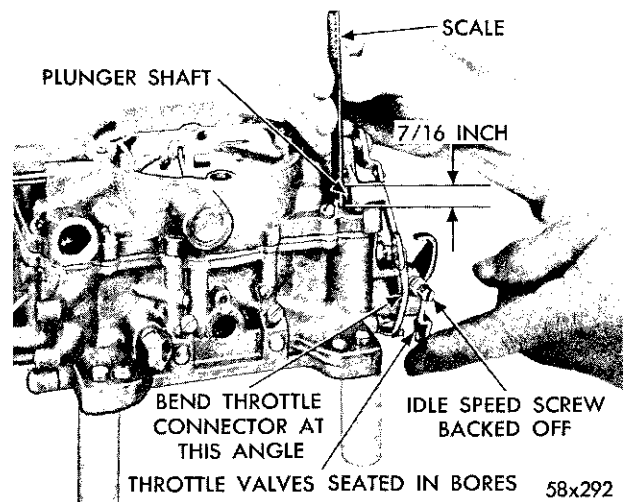

Fig. 36—Checking Accelerator Pump Travel
(1) Move the choke valve to wide open position, to release the fast idle cam. Back off the idle speed adjusting screw (curb idle) until the throttle valves are seated in the bores.
(2) Measure the distance from the top of the air horn to the top of the plunger shaft, using a "T" scale, as shown in Figure 36. This distance should be 7/16 inch on AFB 29035.
(3) If an adjustment is necessary, bend the throttle connector rod at the lower angle, using Tool T109-213, until correct travel has been obtained.